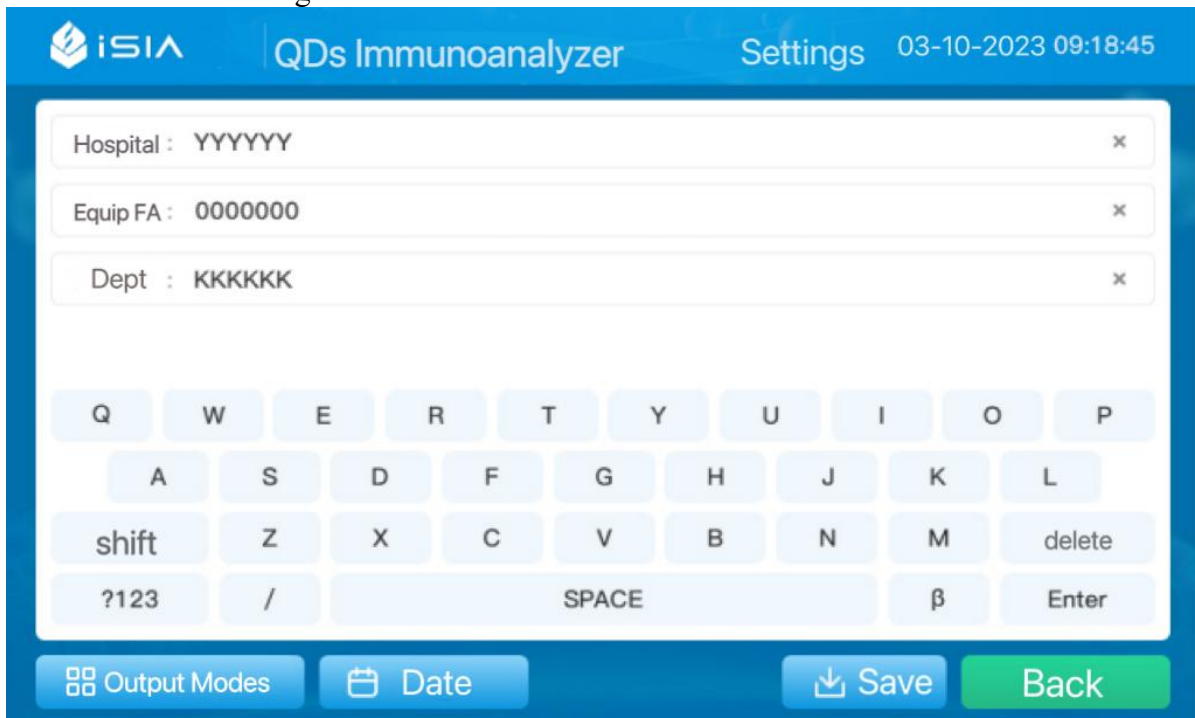
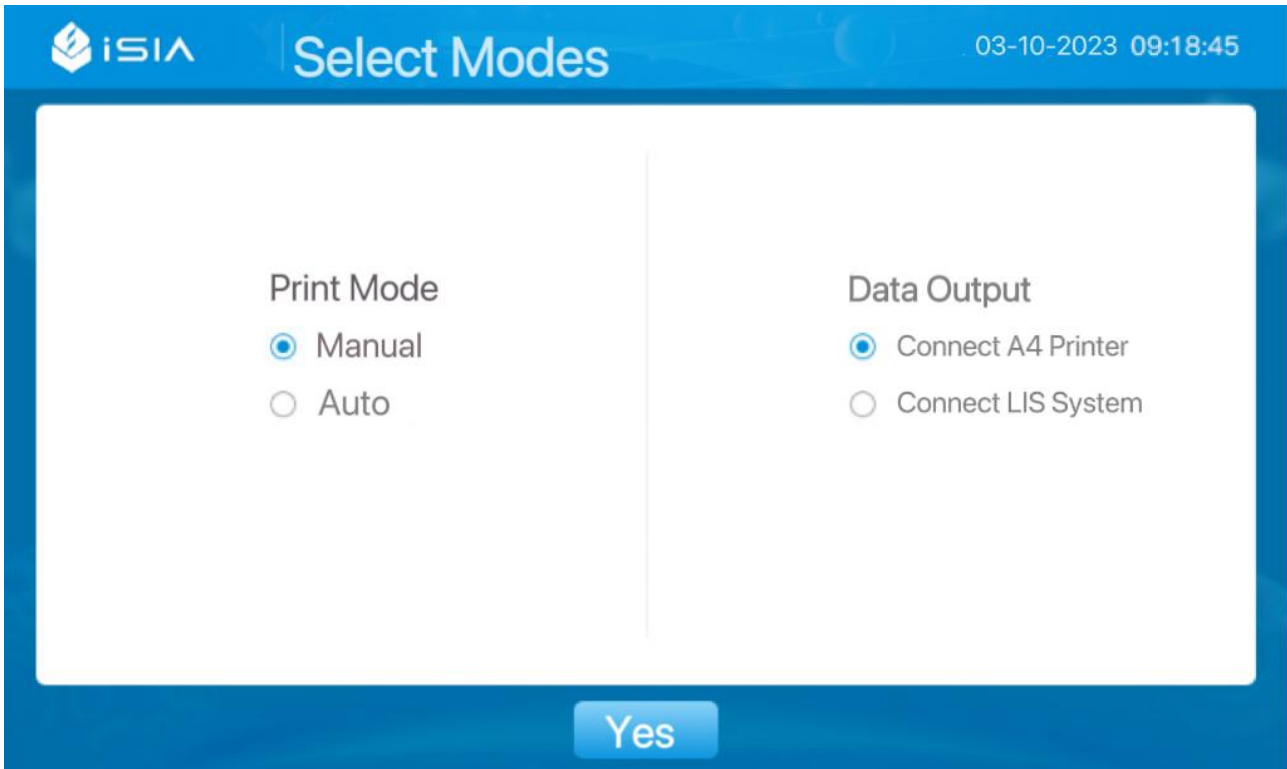
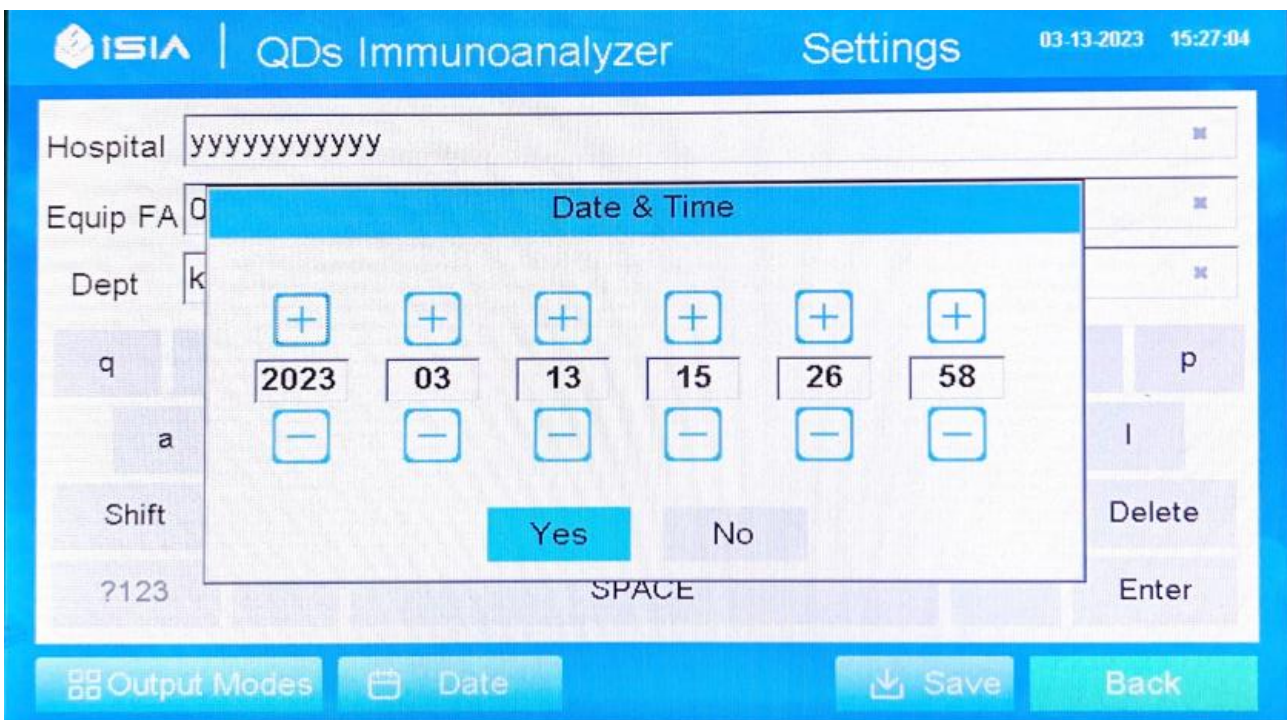

Figure 4.1.3
Figure 4.1.4
Figure 4.1.5
- 2) As shown in Figure 4.1.3, with [Work Mode Selection], you can select the printing mode and data transmission method, as shown in Figure 4.1.4. With [Date Settings], date can be edited and entered, as shown in Figure 4.1.5. After saving the information, click Return to back to the settings interface.